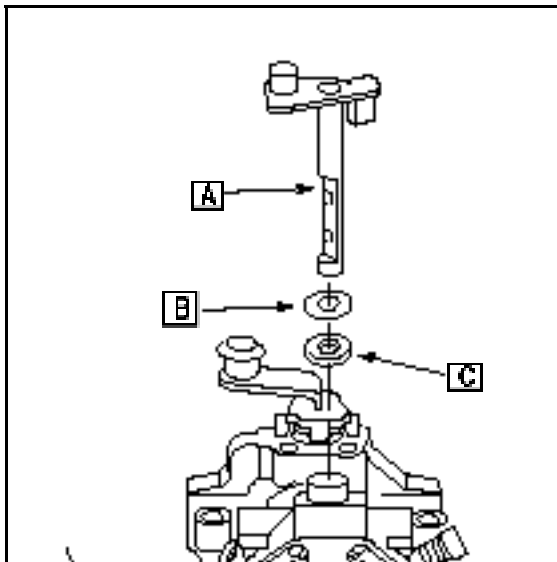

Fig. 58
15. Slide the throttle shaft ([A] Fig. 58) out of the carburetor body.
16. Remove the washer (B).
17. Inspect the shaft seal ([C] Fig. 58).